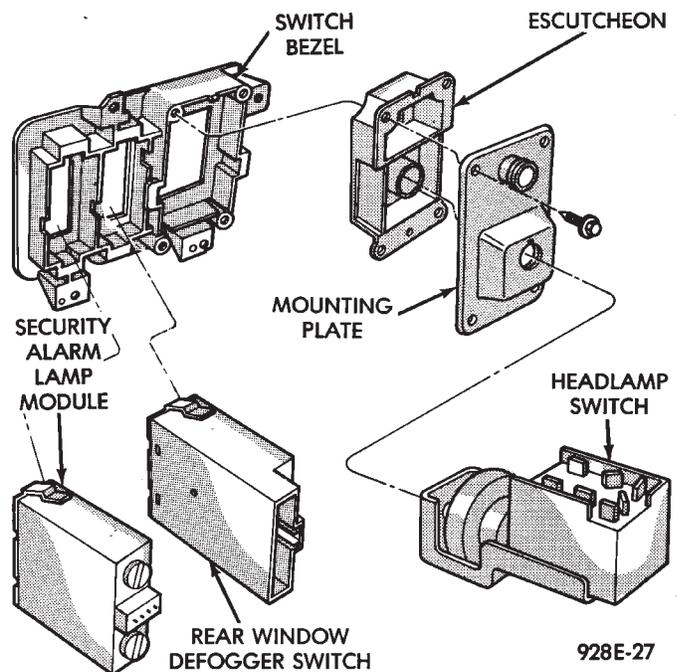

Fig. 36 Headlamp and Accessory Switch
- (1) Remove headlamp and accessory switch module from instrument panel (Fig. 36).
- (2) Remove rear window defogger switch by depressing snap-in clips on top and bottom of switch.
- (3) For installation reverse above procedures.